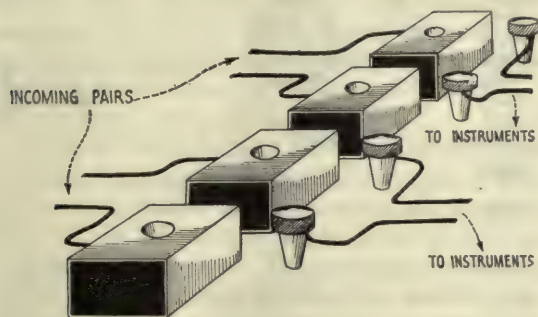

FIG. 1
**T**HE use of plugs and jacks for quickly making and breaking electrical connections dates back to the early days of the telegraph. When the wire telegraphic art had developed to the point where more than one line came into an office, it was found desirable to provide for connecting quickly any line to any instrument, and for this purpose it became the practice to have each line end in two brass blocks with tapered holes, and to provide the ends of the wires leading to the instruments with tapered brass plugs, as shown in Fig. 1. With this